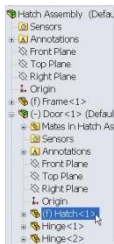

Figure 14
**With the FeatureManager shown, click on the + sign next to the door subassembly (if necessary) to expand it and see all of the subentries (it may already be expanded). Locate the hatch component, and click to select it from the FeatureManager, as shown in Figure 14.**